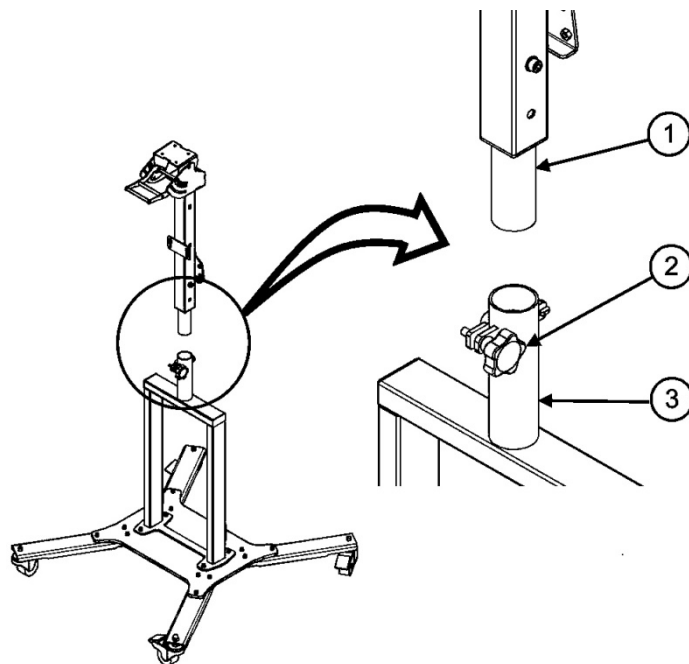

Figure 7 Pole Attachment
5. Loosen the two mounting screws (Figure 7, 2) and adjust the angle shelter (1) to the position needed. Re-install the two mounting screws (2).